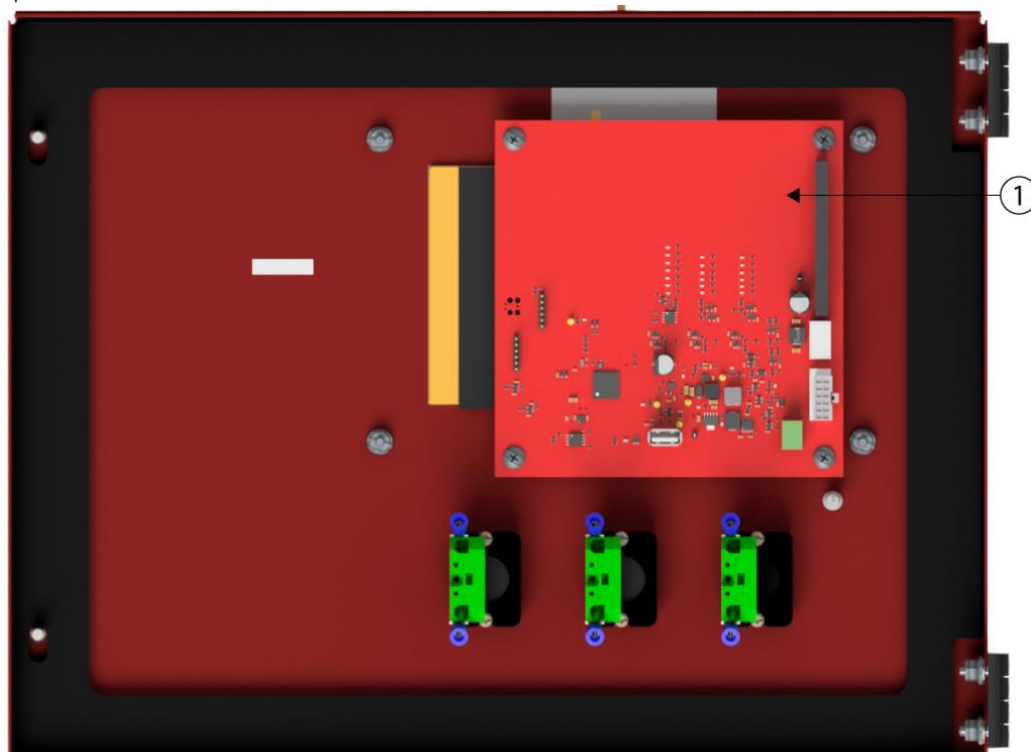

Figure 2-2
The **Control Board** (*Figure 2-2 item 1*) is located on the right side of TSP enclosure door. The “brain” of the TSP, the control board houses all the memory. It receives and interprets signals from all the engine sensors, triggering alarms if needed.